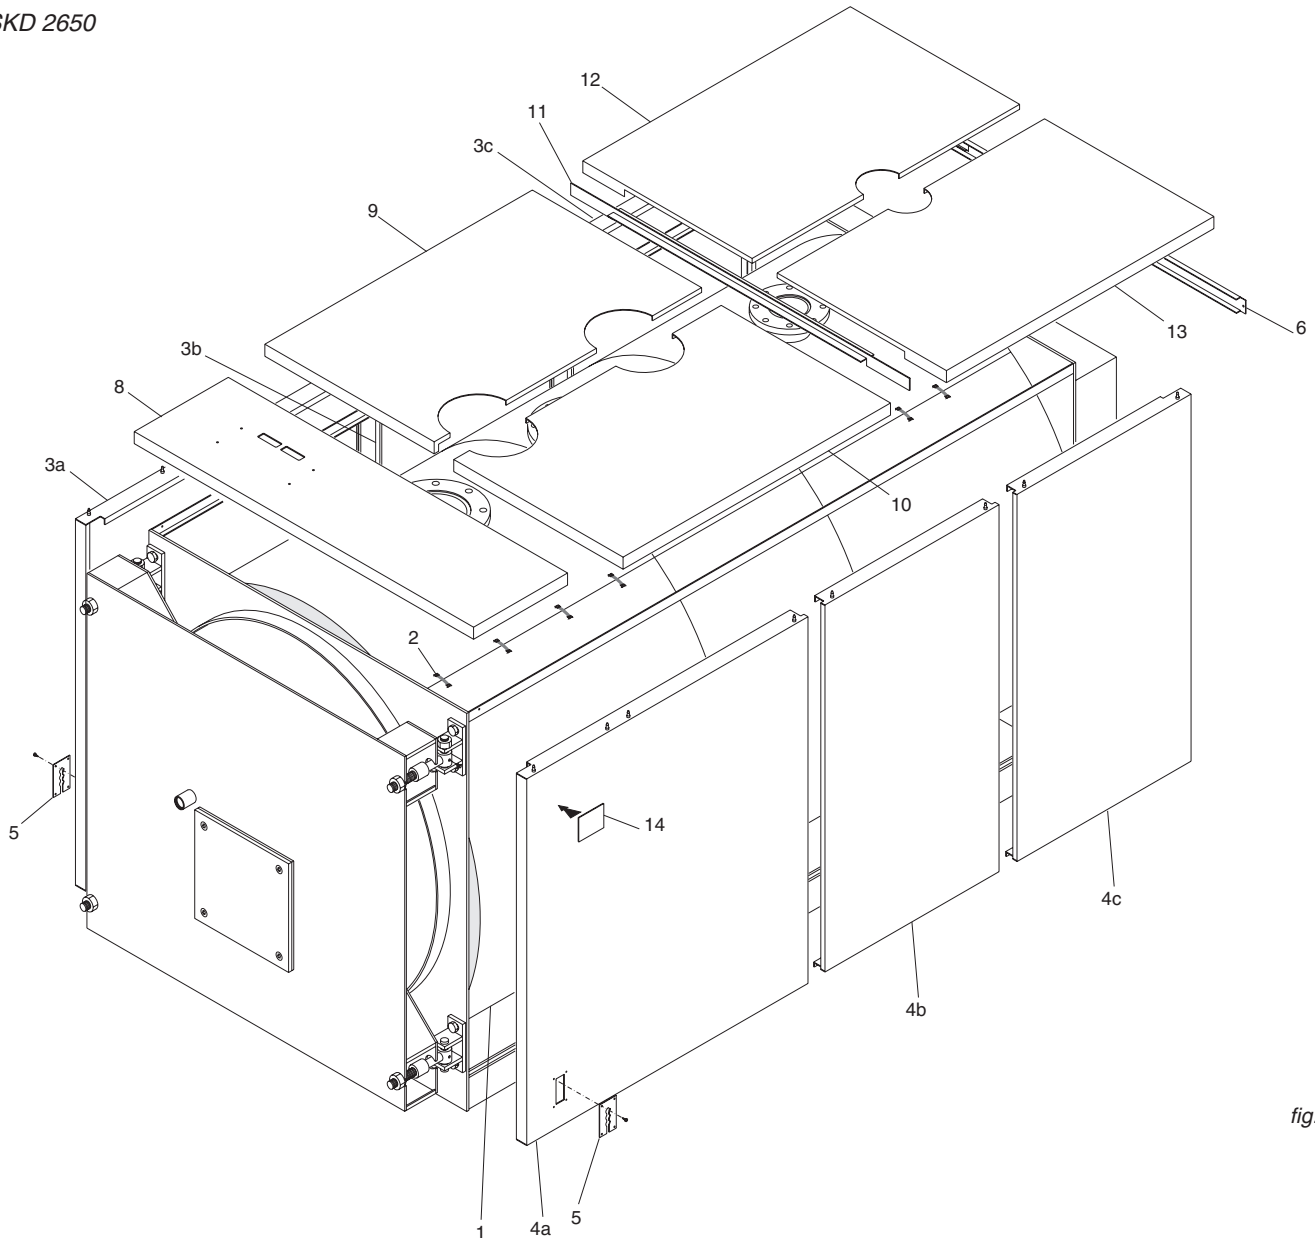

fig. 30
N.B.: For the **SKD 2650** model (ref. fig. 30) the casing and insulation are contained in 4 boxes.
E) Insert into the conduits the bulbs of the instruments as indicated in fig. 30 and wire the panel board to the power line, to the burner and to any pumps, etc.
Assembly sequence (Ref. fig. 30)
- E) Insert into the conduits the bulbs of the instruments as indicated in fig. 30 and wire the panel board to the power line, to the burner and to any pumps, etc.